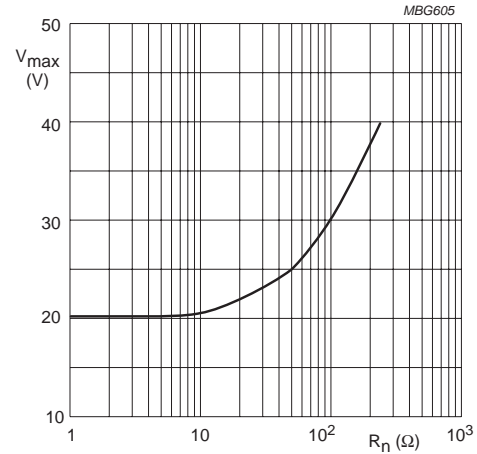

Fig.4 Maximum applied voltage after fusing.
2. The maximum voltage that may be applied after fusing is shown in Fig.4.